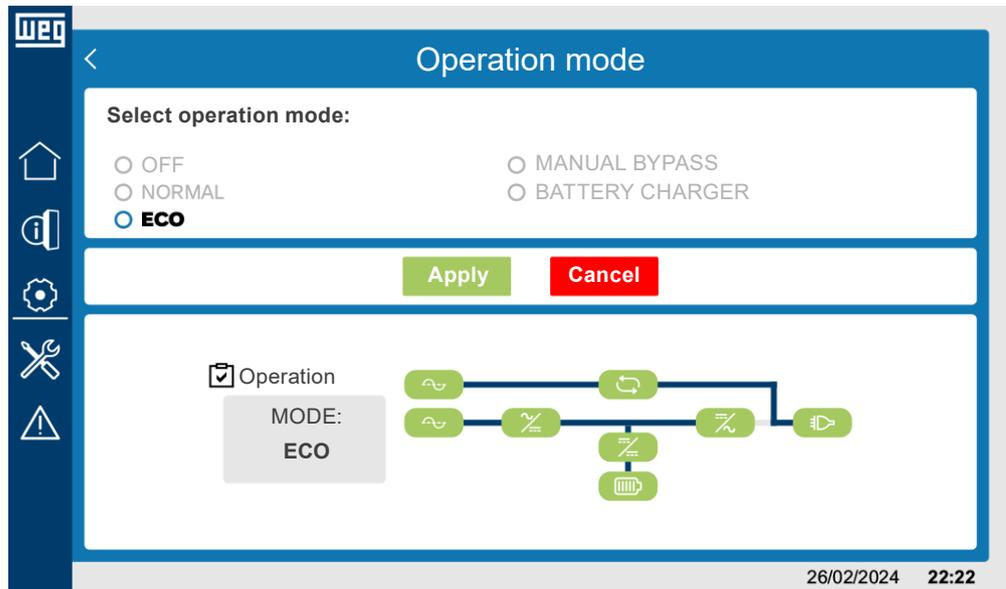

Figure 6.31: Synoptic diagram in ECO operating mode
- Manual *bypass*: Figure 6.31 on page 6-22.